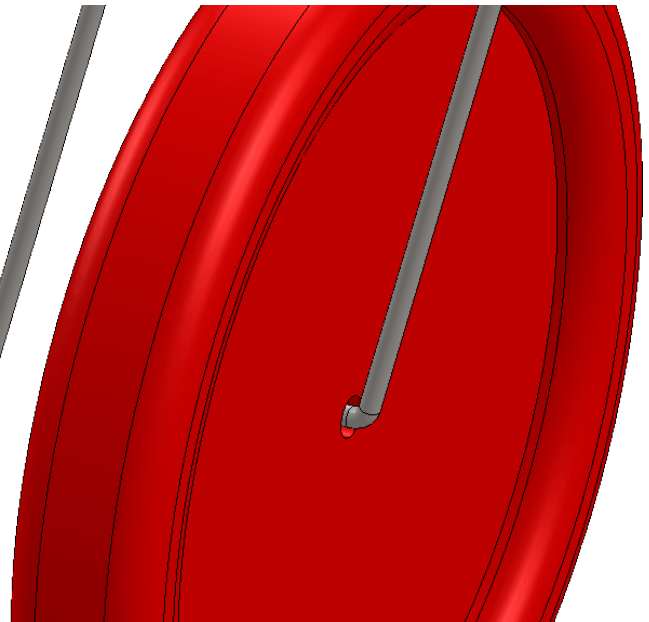

Fig. 11
Step 6. Click Add/Finish Mate  in Mate pop-up toolbar to add a **Coincident** mate, Fig. 11.
Step 8. Click Zoom to Fit  (F) on the View toolbar.